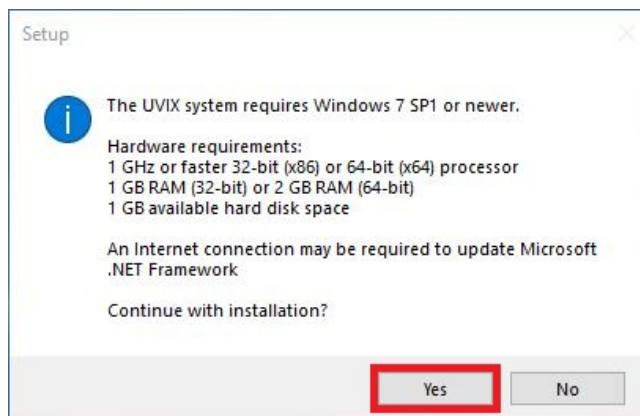

Figure 4.11: UVIX Requirements
1. Ensure that the requirements are met and click "Yes," as shown in figure 4.11.